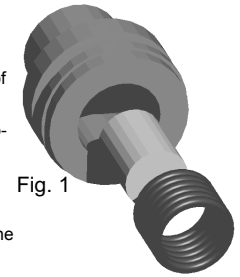

Fig. 1
3. Rub a light coat of grease on the six delay o-rings (small, 3/32" thick) and place them on a flat surface. With a clean hand, push the delay down into each o-ring one at a time. Avoid getting grease on the ends of the delay element (Figs 1 & 2).